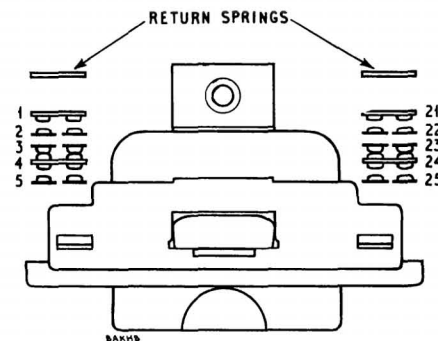

FIG. 4.—SPRING NUMBERING VIEWED FROM FRONT OF RELAY
5. Spring numbering. (See Fig. 4).—With the